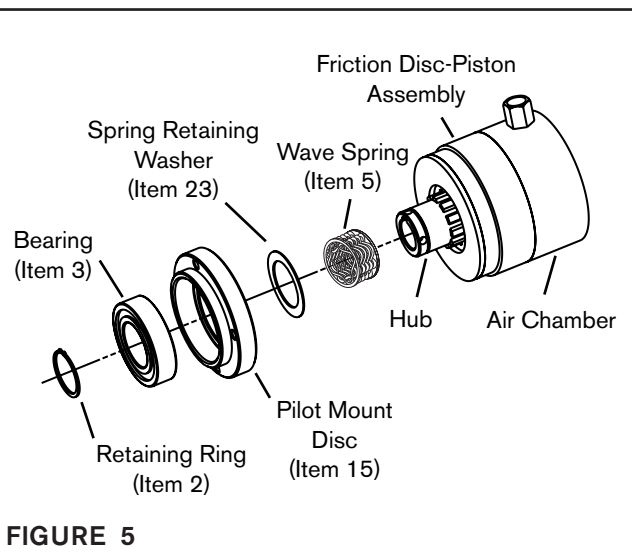

FIGURE 5
**NOTE: Refer to Figures 5, 6, 7 and 8**